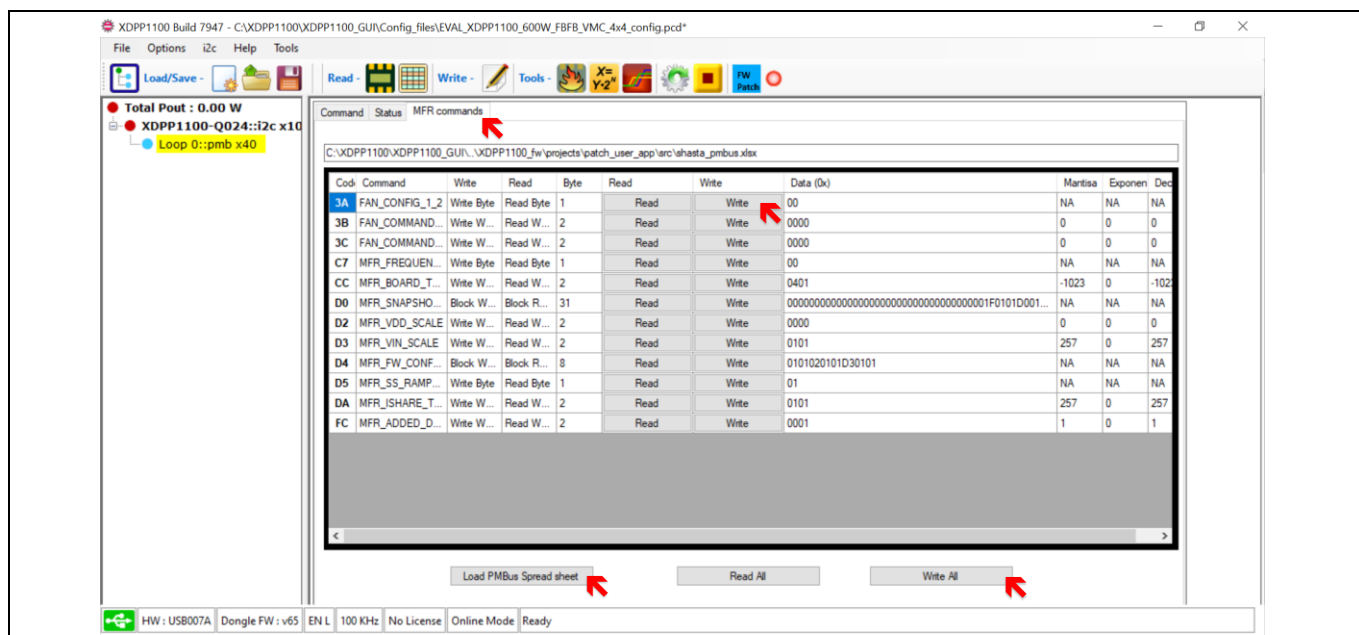

Figure 59 MFR commands tab
- Click the **Loop0::pmbus x40** (highlighted in yellow in Figure 59) and select the MFR commands tab.